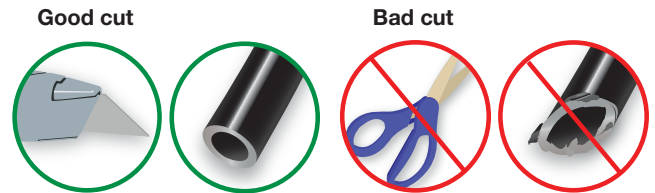

Fig. 21
1. For nylon air line (*), it is recommended that the air line be routed along the top of the frame, forward of the axle, then down to the fitting. After cutting the air line to length, install the air line thermal sleeve over the air line on the passenger's (right) side before inserting into the fitting. Secure the air lines to the upper coil spring mount with zip ties (BB) supplied.
2. Cut the air line in half. Make clean, square cuts with a razor blade or hose cutter (Fig. 21). Do not use scissors or wire cutters.